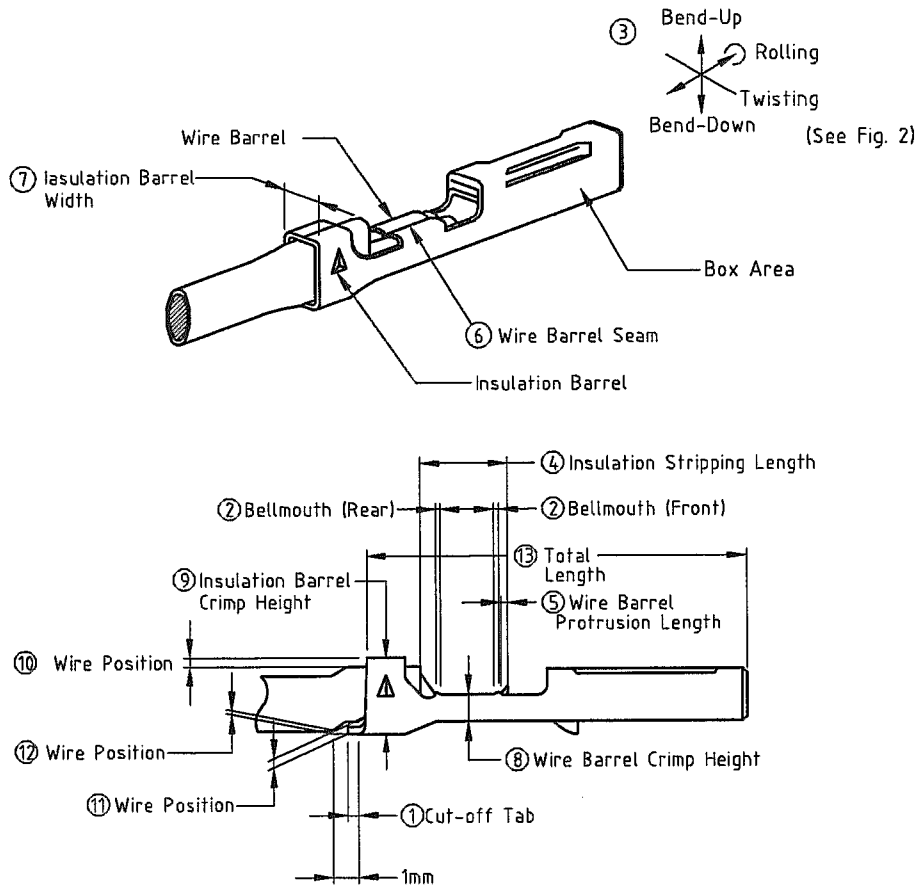

fig. 1
| 1 | Cut-off Tab | | 0.25 mm max. | Fig.1 ① |